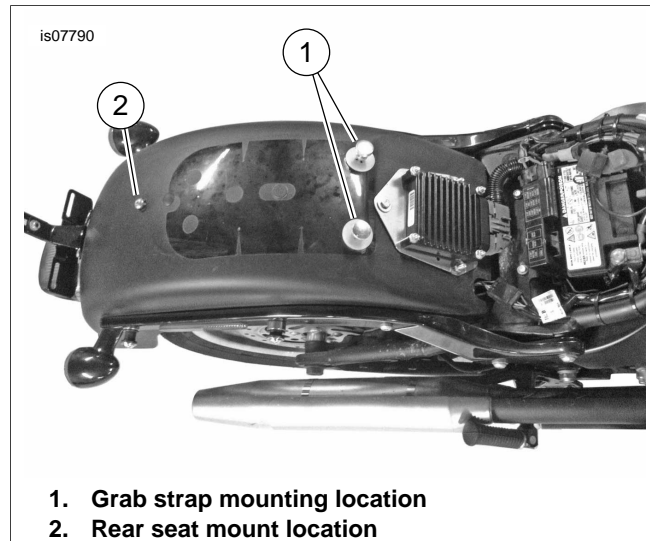

Figure 5. FL Softail Model Fender Configuration
2. **FL Softail models:** See Figure 5. Remove the OE grab strap from the studs (1) protruding through the fender. Discard the strap.